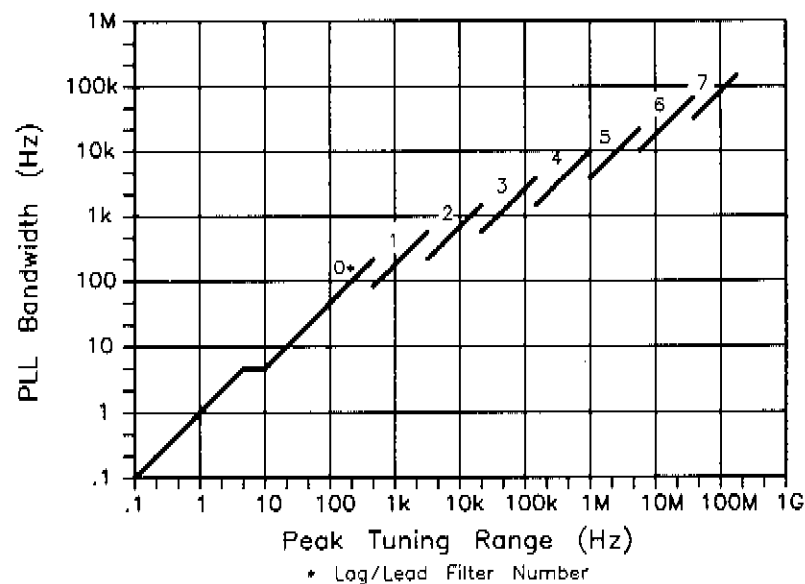

Figure 3-35. Phase Lock Loop Bandwidth as a Function of the Peak Tuning Range of the Measurement.
4	Unable to close the Phase Lock Loop. Action: There are several possible conditions that can prevent the test system from being able to close the phase lock loop. These conditions and the actions recommended for verifying them are listed below in the order of probable cause. 1. The test system is not able to tune the beatnote to within the capture range set for the measurement. This possibility is minimized by carefully following the Checking the Beatnote procedure in each measurement example in chapter 3 of the Operating Manual. If an oscilloscope is available, you will find that connecting the scope to the AUX MONITOR port on the HP 11848A allows you to continuously monitor the beatnote throughout the measurement. By aborting this measurement and reinitiating a New Measurement, you can observe the beatnote as the HP 3048A attempts to close the phase lock loop (a message will appear on the display to let you know when this is happening). The beatnote frequency, as seen on the scope, should decrease and then go to zero (dc). Watching the beatnote's response as the test system attempts to adjust it to 0 Hz can provide clues about tuning problems that may exist. 2. The beatnote drifted beyond the HP 3048A's capture range before the test system was able to acquire lock. For further information on verifying the frequency stability of the beatnote, refer to chapter 3, Tracking Frequency Drift in the Operating Manual. 3. The VCO Tune Constant entered for the measurement was not within a factor of 2 of the actual VCO Tune Constant, and the HP 3048A was not configured to measure the tune constant for verification. For details on verifying the VCO Tune Constant, refer to chapter 3, Estimating the Tuning Constant in the Operating Manual. 4. The Peak Tuning Range set for the measurement is > 10 MHz and is causing the loop dynamics to be non-linear. When this condition exists, the non-linear response of the beatnote as the test system attempts to close the phase lock loop can often be seen on an oscilloscope connected to the AUX MONITOR port on the HP 11848A. 5. One of the sources is being injection locked as the HP 3048A is tuning the beatnote to 0 Hz. (Refer to chapter 3, Minimizing Injection Locking in the Operating Manual for recommended actions.) 6. The modulation bandwidth of the VCO source's tuning port is not wide enough to provide adequate phase margin for the test system's phase lock loop (PLL). The VCO's modulation bandwidth (the upper frequency limit of the VCO's tuning port) should be greater than approximately ten times the PLL bandwidth set for the measurement. PLL bandwidth is shown as a function of the Peak Tuning Range (PTR) in figure 3-35. (The PTR for the measurement is determined by multiplying the VCO's Tune Constant by its Tune Range of VCO.)
- Decrease the PLL bandwidth to 1/10 the VCO's modulation bandwidth by decreasing the Peak Tuning Range (PTR) for the measurement. Use figure 3-35 to determine the PTR required. The PTR can be reduced by decreasing the Tune Range of VCO value entered. Divide the required PTR by the VCO's Tune Constant to determine the appropriate Voltage Tuning Range to enter. (Keep in mind that reducing the PTR limits the test system's Frequency Drift Tracking Range for the measurement. For further information about changing the PTR, refer to chapter 3, *Changing the PTR* in the *Operating Manual*.)